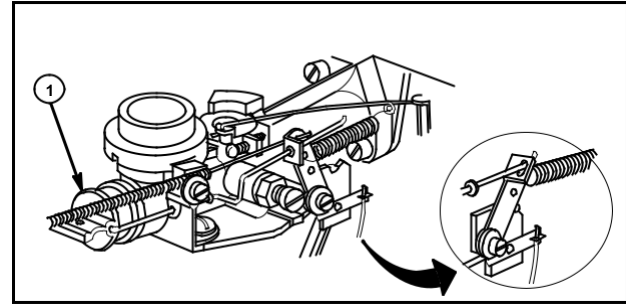

Fig. 27
Choke position closed (1), Inset shows spring attachment to stop switch, Fig. 27.